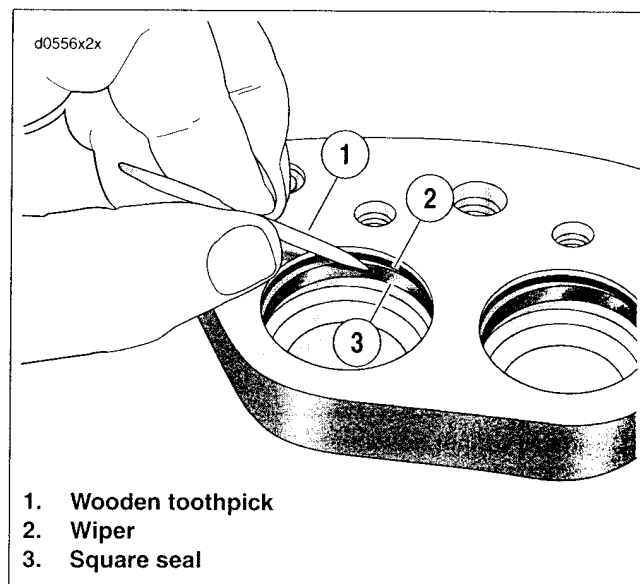

Figure 2-74. Wipers and Square Seals
6. See Figure 2-74. Using a wooden toothpick (1), remove a wiper (2) and square seal (3) from each caliper bore. Discard all removed parts.
2. See Figure 2-74. Install a new square seal (3) and a new wiper (2) into each piston bore.